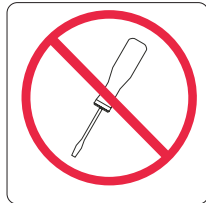

Figure 11. No user access label for the uninterruptible power supply
6. No user access label. See Figure 11.